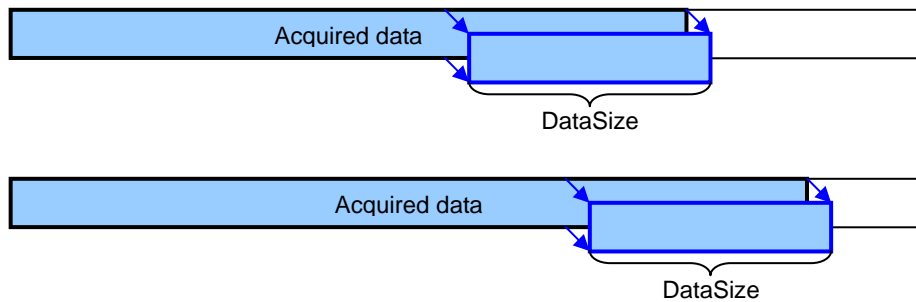

Figure 101 AType set to ctLast
**0... ctLast...** for reading a certain amount (specified by “BlockSize”) of the last data; Figure 101 illustrates two subsequent calls of GetDataBlocks when AType is set to ctLast.